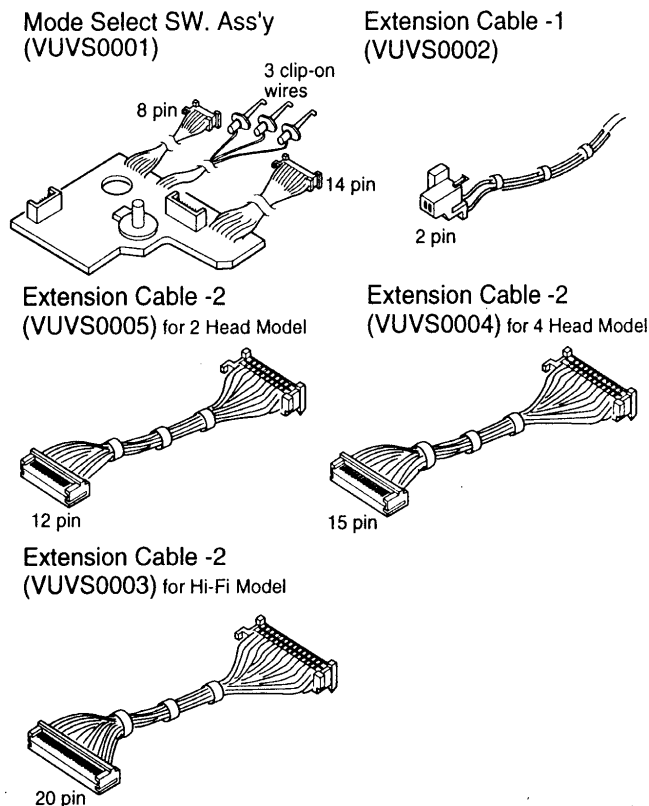

Fig. 5 - Extension Cable Kit
**SERVICE NOTES (Continued)****Service Position (3) (Figs. 5, 6, 7)**